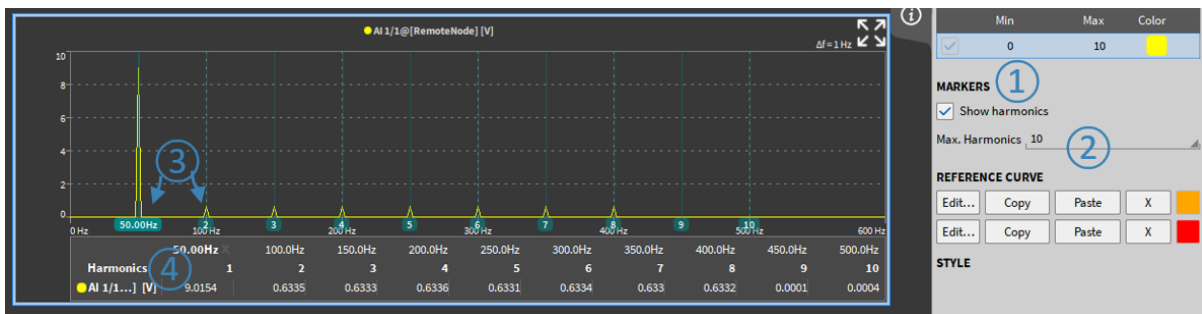

Fig. 8.49: Usage of Harmonics Cursors
Harmonics Cursors can be displayed by checking *Show Harmonics* (see ① in Fig. 8.49). The number of harmonics can be set from 1 to 10 (see ② in Fig. 8.49). Harmonics are marked with cursors (see ③ in Fig. 8.49) and the harmonics amplitude is displayed at the instrument's bottom (see ④ in Fig. 8.49).